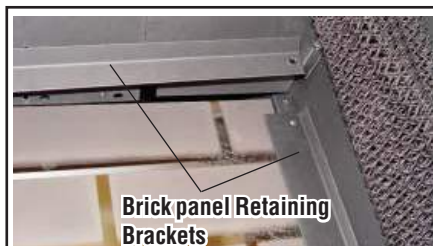

Figure 15
- c. Remove the top brick panel retaining bracket (see Figure 15). Be very careful to hold the bracket when removing the 2 screws to ensure the bracket doesn't fall.
- d. Remove the left and right side brick panel retaining brackets (see Figure 15). Be very careful to hold the bracket when removing. Remove the bottom screw first to avoid the frame falling down after both screws are removed.